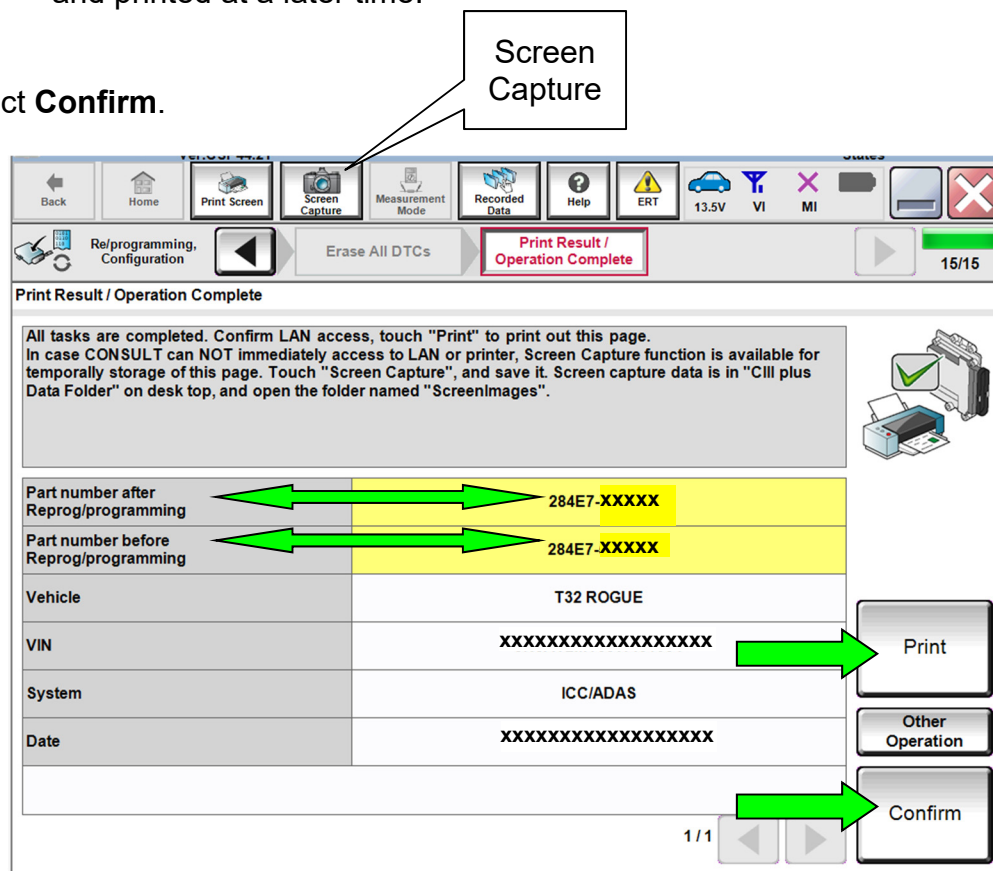

Figure 32
51. When the entire reprogramming process is complete, the screen in Figure 32 will display.
53. Print a copy of the screen below (Figure 32) and attach it to the repair order for warranty documentation.